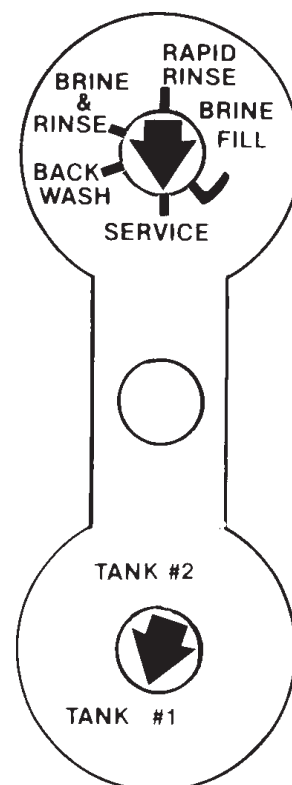

fig. 1
11). For the purposes of this manual, vessel #1 is fitted with the main control valve & vessel #2 has the adaptor. Looking at the right hand side of the control valve, it has indicators which tell you which position the control valve is in during regeneration and which vessel is **IN SERVICE**. (fig.1 shows the valve in the **SERVICE** position and vessel #1 in **SERVICE**).